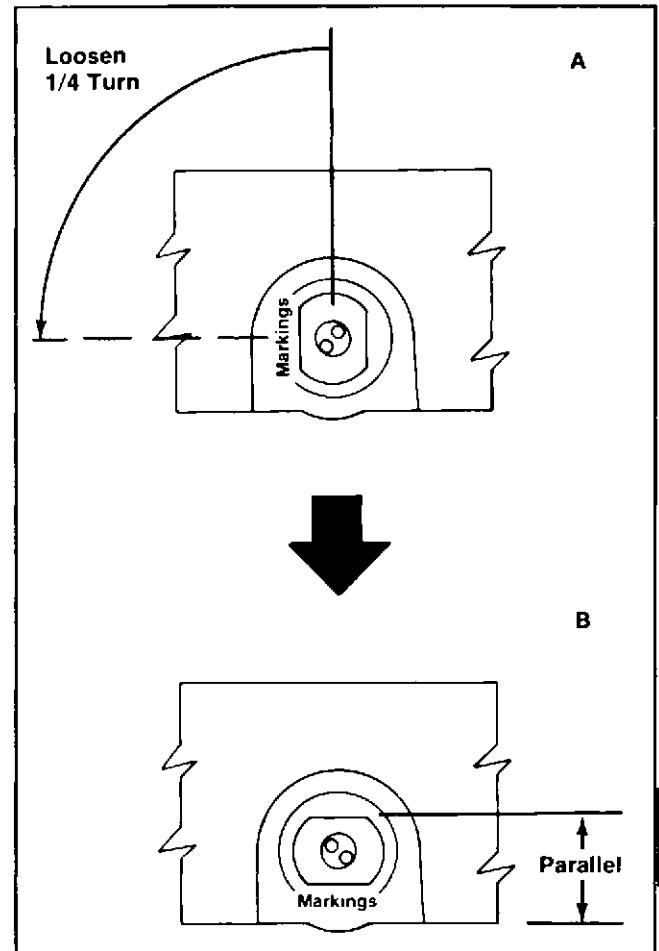

Figure 8-12. Float Switch Removal.
- A. Turn the switch clockwise until the flat surface is in a vertical position as shown in Figure 8-12. (N.C./N.O. markings on left.) This will allow the float to return against the switch body.
- B. Turn the switch counterclockwise 1/4 TURN. STOP turning switch when flat surface is in a horizontal position. (Flat surface parallel with base of oil pan and N.C./N.O. markings down. Refer to Figure 8-12.